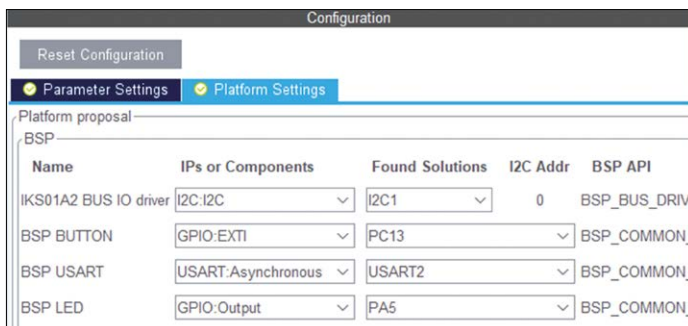

Figure 16.20: Configuring Platform Settings.
- Configure the Platform Settings as shown in Figure 16.20.